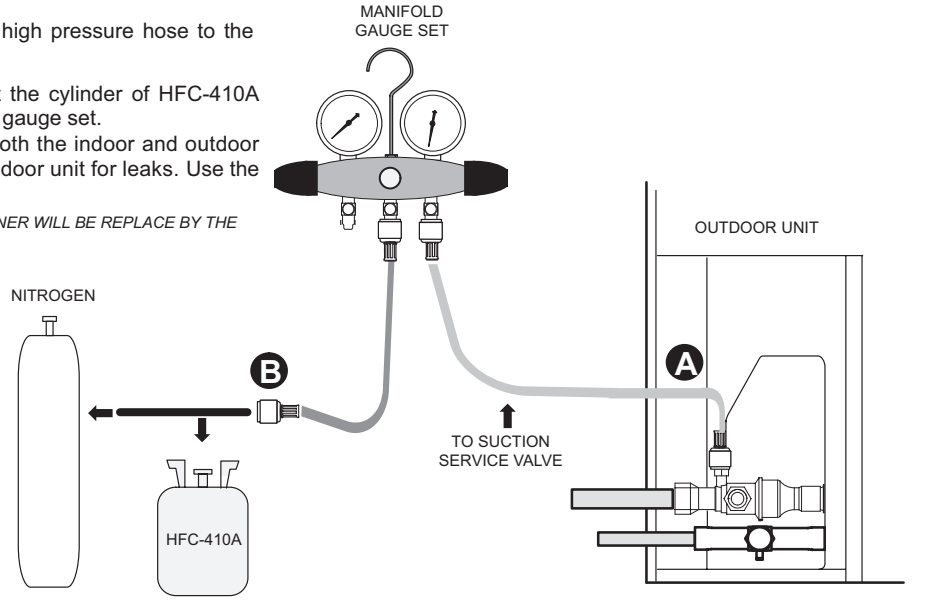

FIGURE 6
- 1 - Connect an HFC-410A manifold gauge set as illustrated in figure 6.